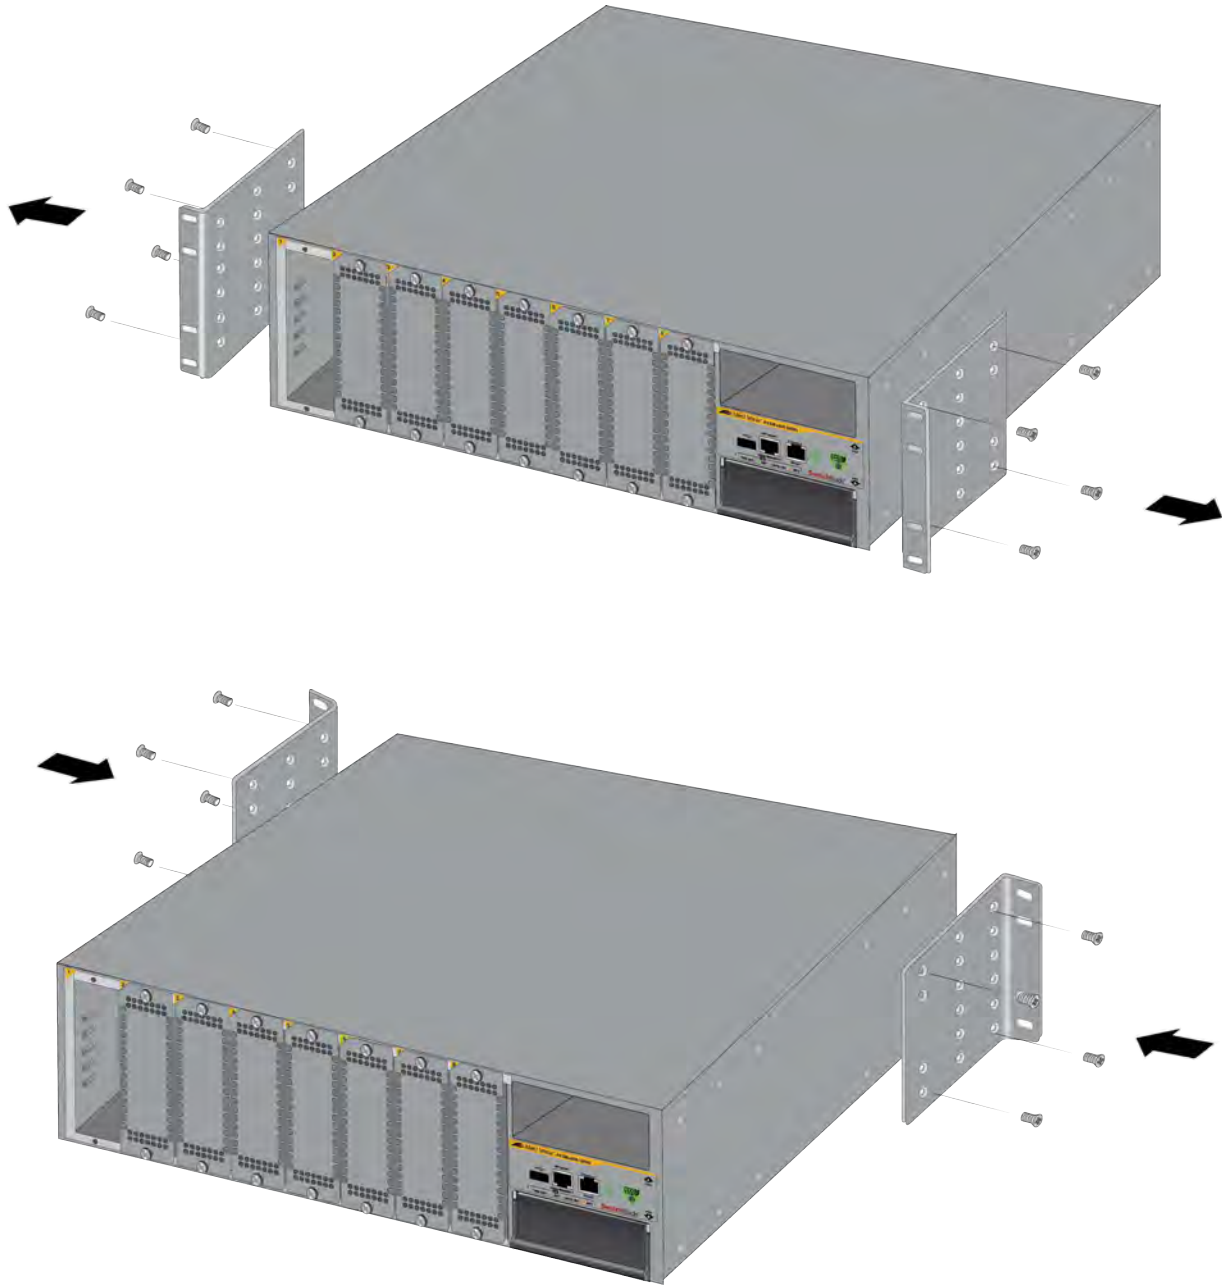

Figure 27. Example of Adjusting the Equipment Rack Brackets on the Switch
To change the positions of the brackets, use a #2 Phillips-head screwdriver to remove them from their default positions and secure them in the new locations. An example is shown in Figure 27.
2. If you want to reposition the brackets from their pre-installed positions, remove them using a #2 Phillips-head screwdriver and secure them in their new position. Refer to Figure 27 on page 66 for an example.